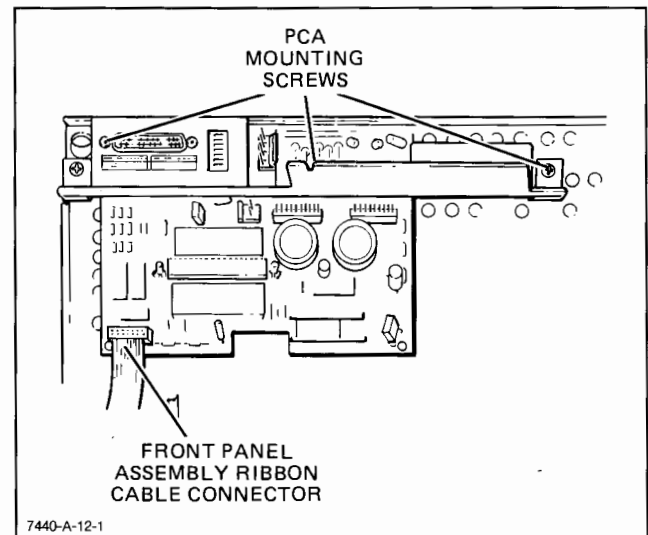

Figure 6-3. Main PCA Removal, Detail A
- f. Remove the Graphics Enhancement Cartridge (GEC) by rotating the GEC release handle up and lifting the cartridge clear of the base assembly. See Figure 6-3, Detail B.